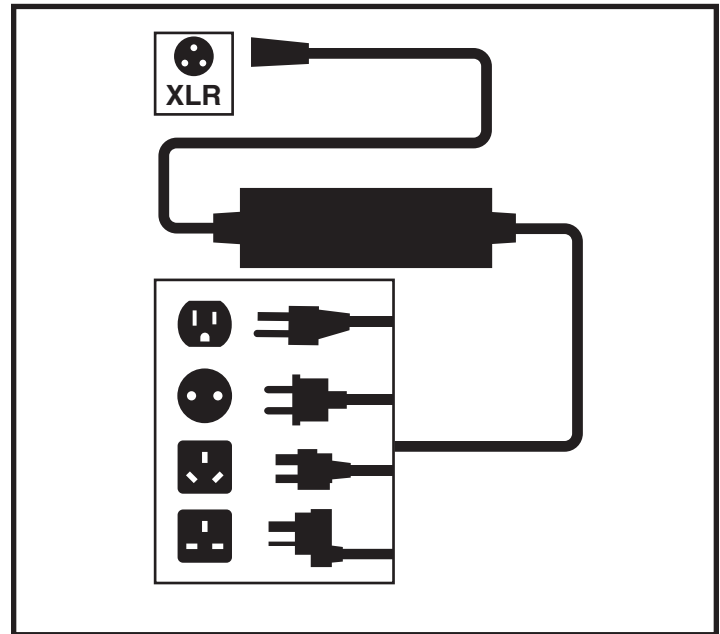

Figure 14. Battery Charging
3. Plug the off-board charger into the off-board charger/programming socket on the controller. See figure 14.